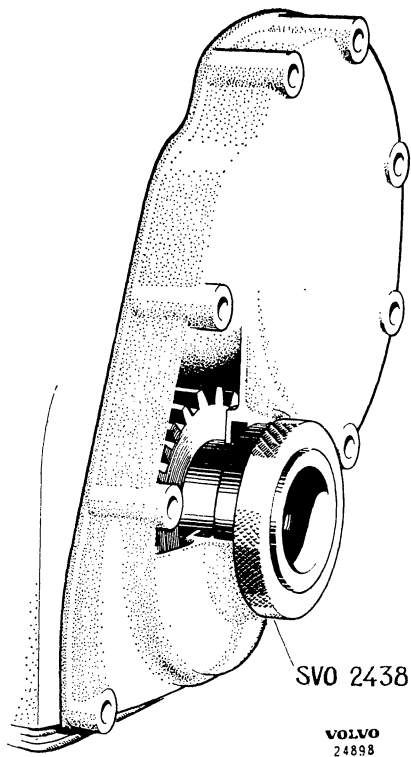

Fig. 2-36. Centering timing gear casing
6. Center the casing with sleeve SVO 2438, see Fig. 2-36. Turn the sleeve while tightening and adjust the position of the casing so that the